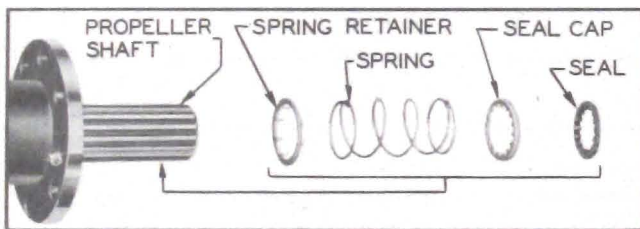

Figure 5-3—Propeller Shaft Spline Oil Seal
On cars equipped with the 3.6 or 3.9 rear axle gear ratio it is necessary to remove the rear axle assembly whenever the propeller shaft must be removed because pinion pullers available for service will not fit over the pinions of these gear sets. Furthermore, on cars with Dynaflo Drive the propeller shaft spline oil seal (fig. 5-3) cannot be properly installed with third member housing connected to the torque ball.
4. On Dynaflow Drive cars, place propeller shaft spline oil seal parts on front end of propeller shaft in the following order: spring retainer, spring, seal cap, oil seal. See figure 5-3. NOTE: Install these parts just before connecting torque tube to torque ball. Do not install parts before rolling axle assembly under car.